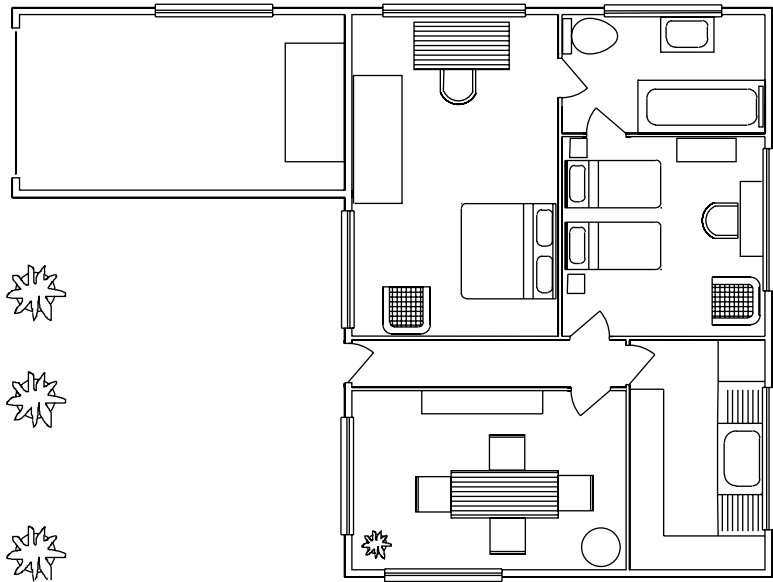

Fig. 9.8 Example – first method of inserting blocks
4. Insert all necessary blocks and add other detail as required to the plan outline drawing. The result is given in Fig. 9.8.
Taking the drawing Fig. 9.8 as an example. If all the unnecessary data is purged from the drawing, the file will be reduced from **145** Kbytes to **67** Kbytes when the drawing is saved to disk.